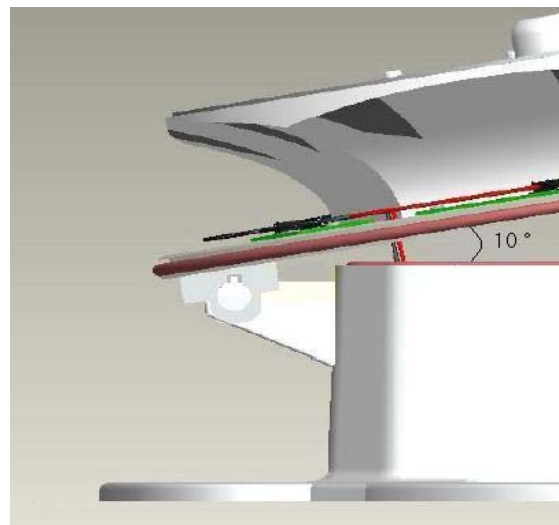

Figure 3-2 – Beacon Opened To 10°
**Remove:** Unfasten the two latches on the front of the base assembly. Lift the top to expose the power supply. Disconnect the two position connector (black and red wires) on the output of the power supply. Lower the lid to approximately 10 ° and slide the entire LED module off the hinge pins as shown in Figure 3-2.